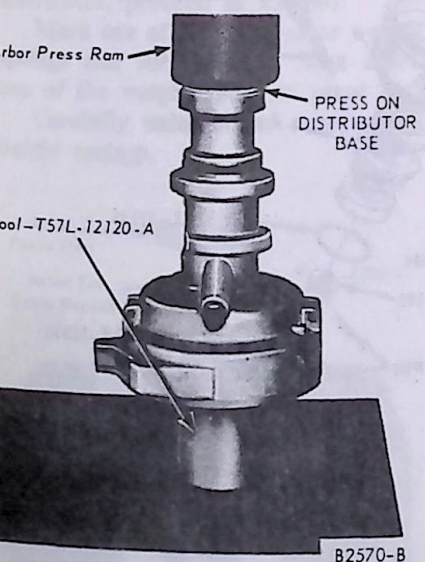

FIG. 9 Installing Bushing—6-Cylinder Engine
1. Oil the new bushing and position it on the bushing replacer tool. Install the bushing (Fig. 9). When the tool bottoms against the distributor base, the bushing will be installed to the correct depth.